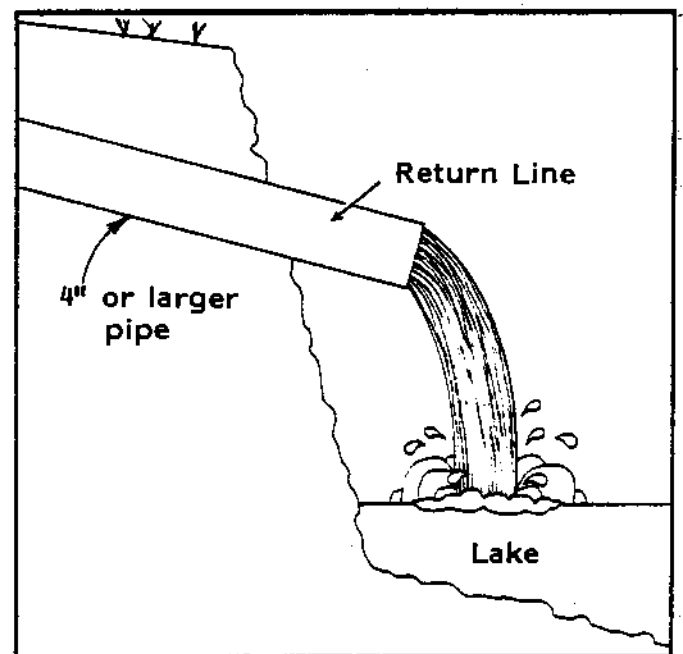

Figure 3. DISCHARGE ABOVE A POND, LAKE OR STREAM SURFACE
**SURFACE WATER DISPOSAL** - A pond, lake, or stream can be used to accept water discharged from a ground water heat pump system. The discharge pipe should be sized to minimize friction loss and tilted such that gravity will cause water to flow toward the pond, lake, or stream. The discharge end of the pipe should be placed above the water surface to avoid clogging by fish, frogs, or algae. Special care should be exercised to insure that the discharge pipe cannot freeze in winter. (Figure 3).